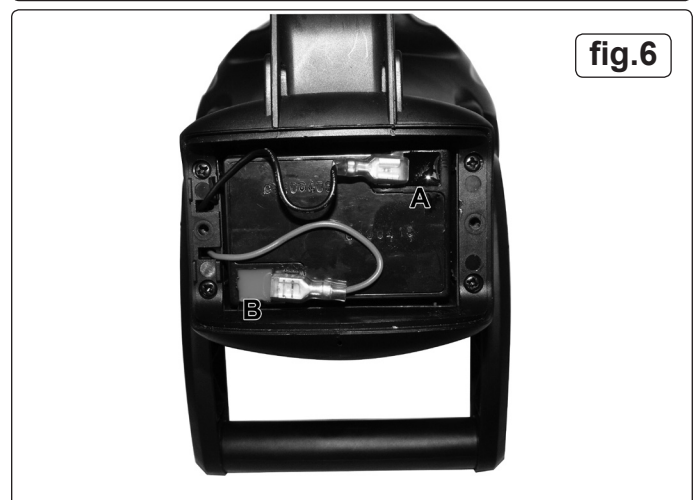

fig.6
- 4.1.4. Disconnect the black wire from the black negative terminal (fig.6.A) and the red wire from the red positive terminal (fig.6.B).